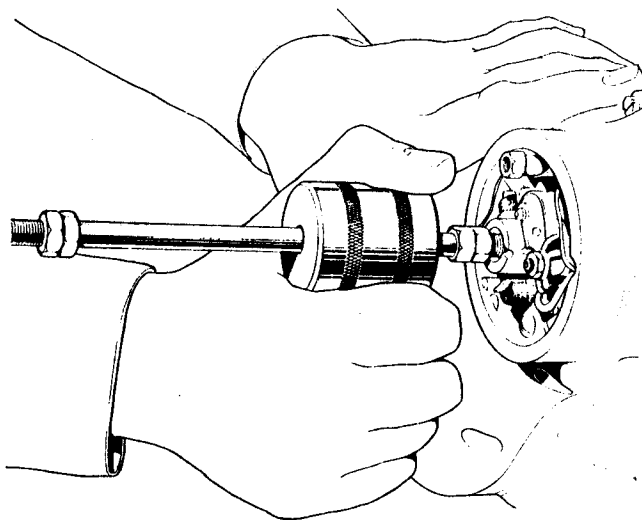

Fig. C20 Removing contact breaker cam using slide hammer 064298.
- 4 Using service tool 064298 as shown in *Fig. C20*, screw the shaft into the contact breaker cam then slide the weight back sharply several times until the cam is lifted off the camshaft taper. It is unnecessary to remove the contact breaker plate from the timing cover at this stage unless so desired.